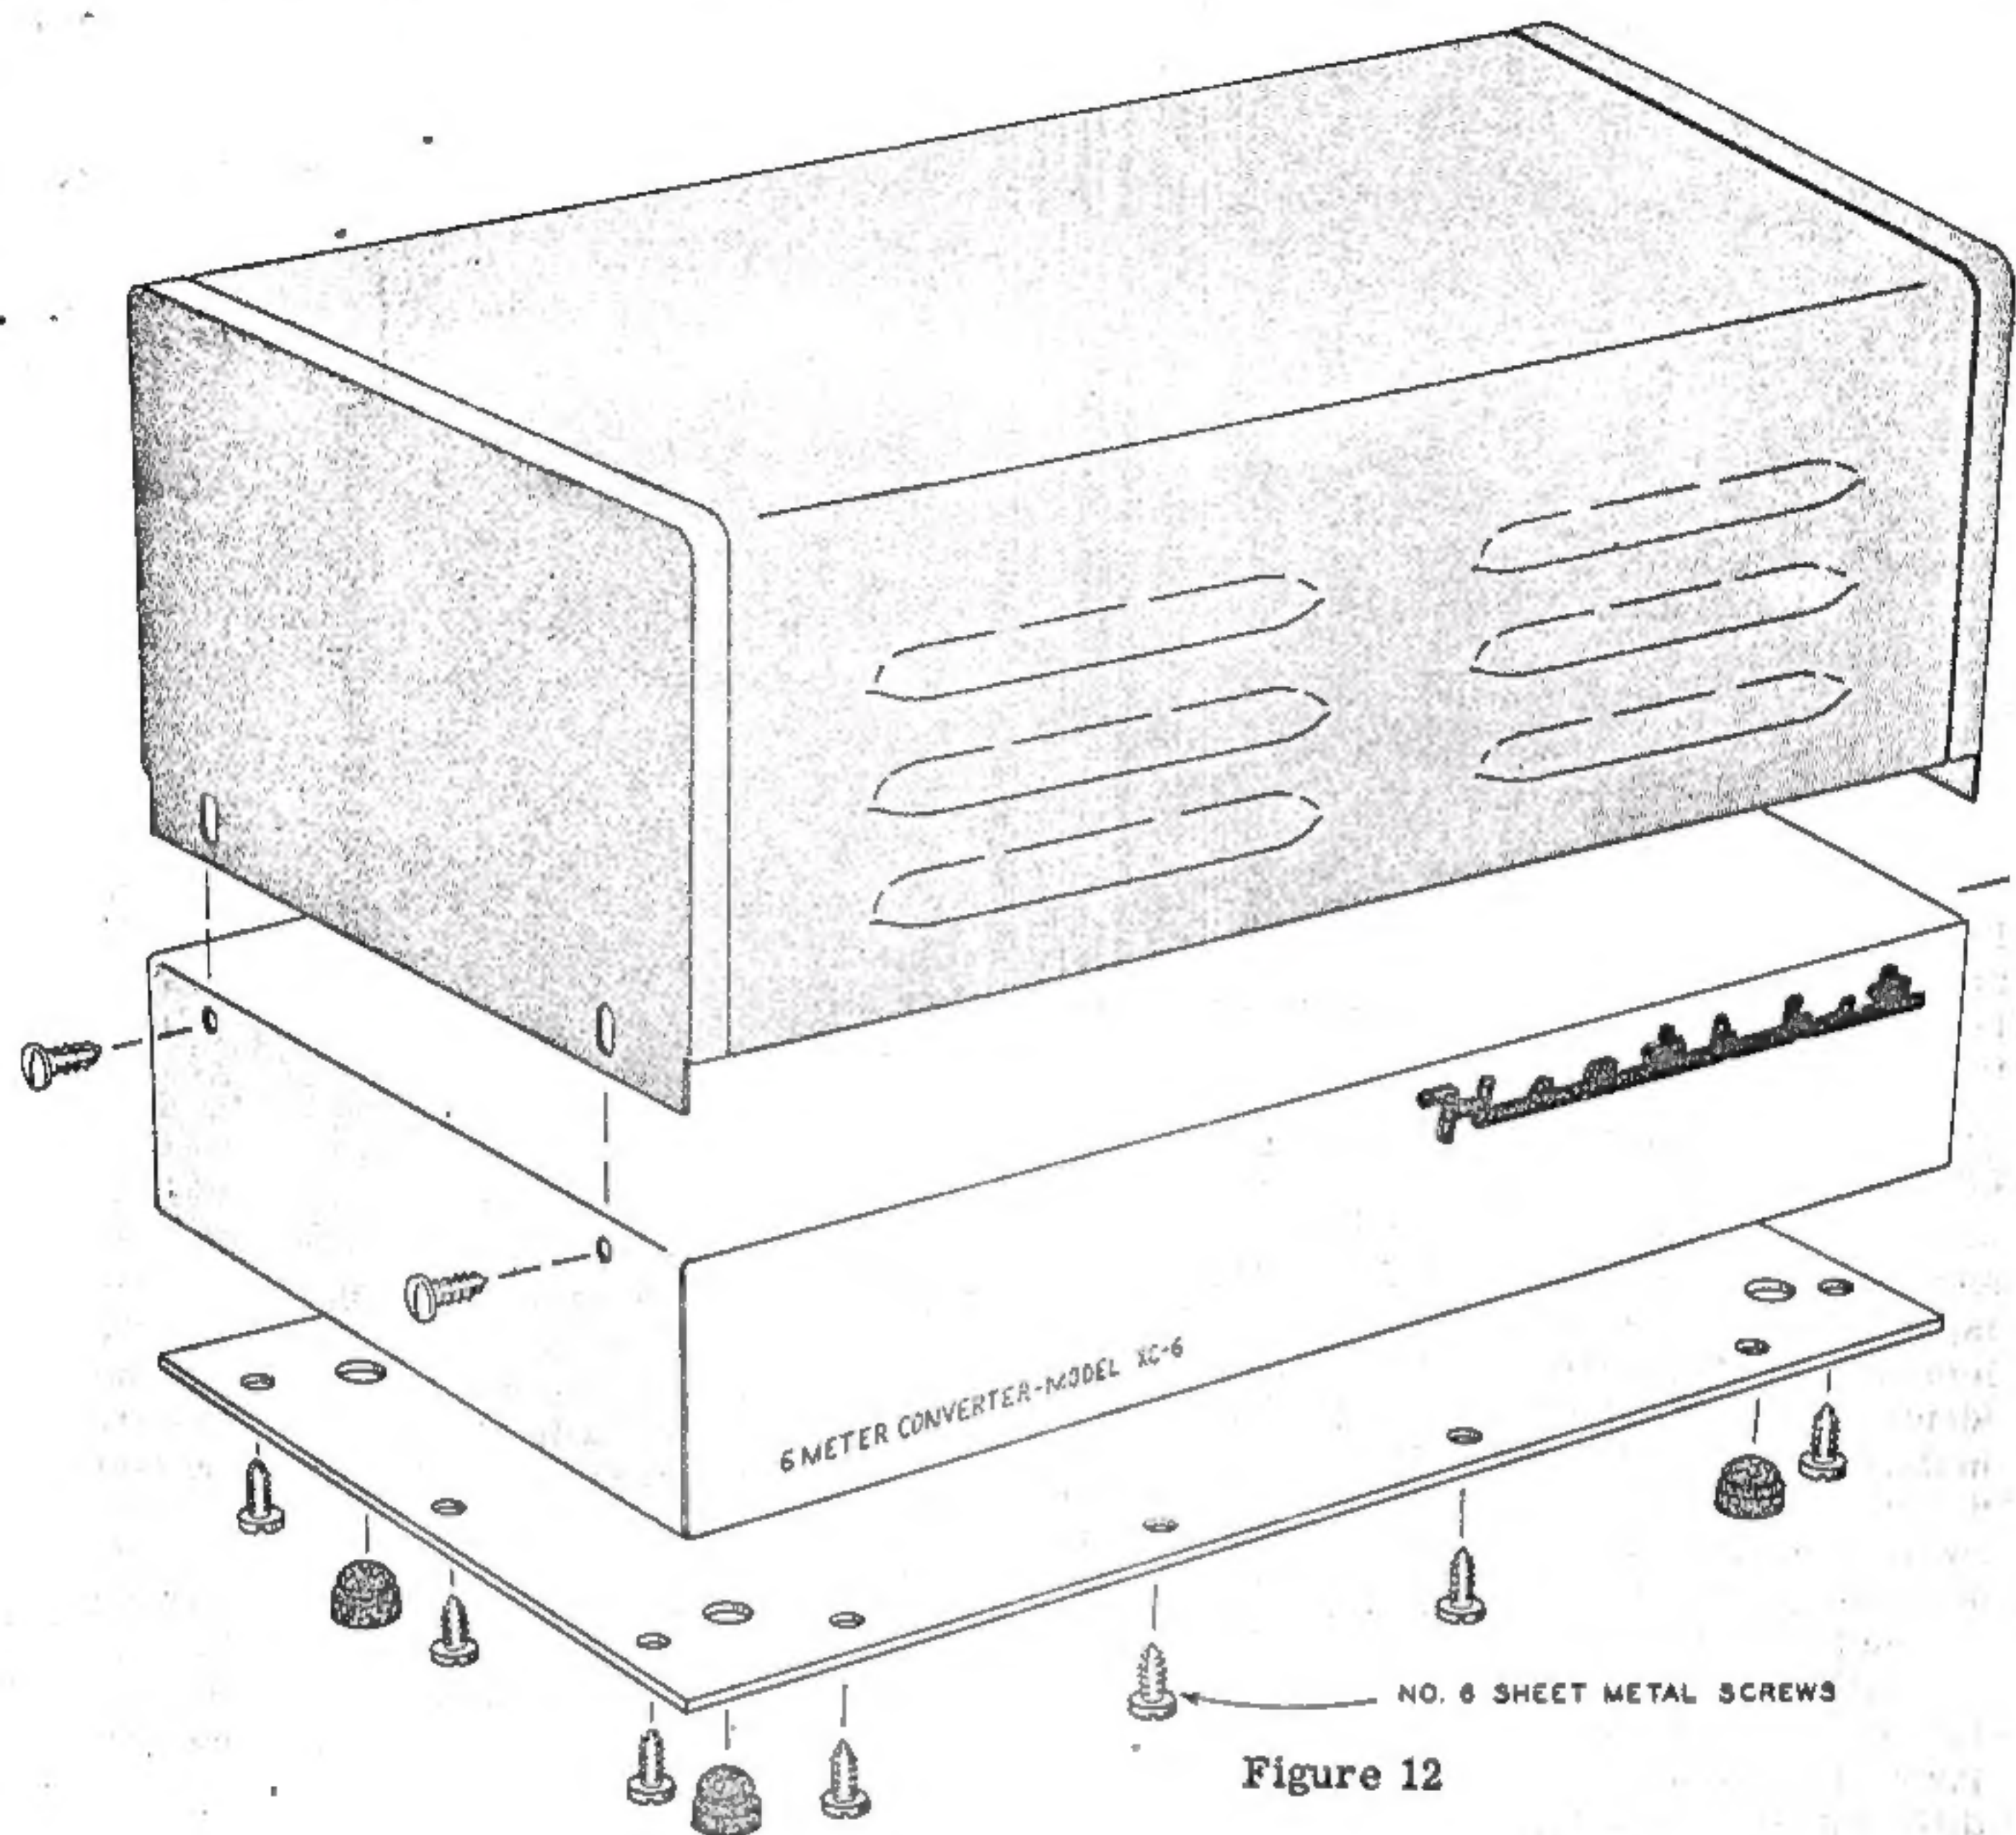

Figure 12
- () Insert the four rubber feet in the bottom plate as shown in Figure 12 on Page 25.